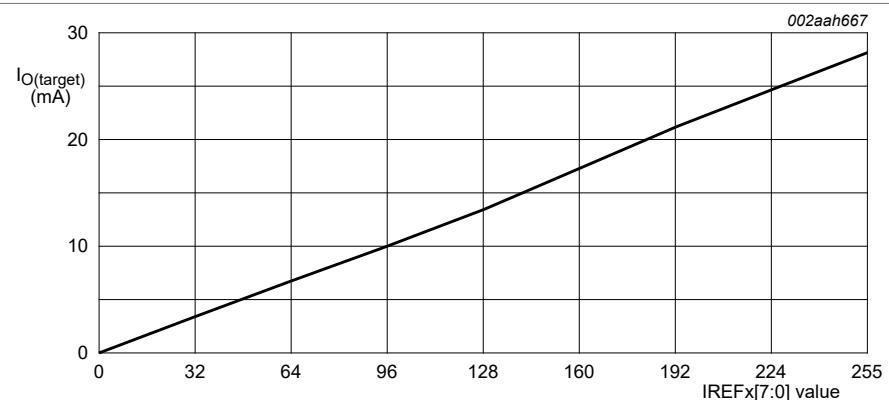

Figure 12. IO(target) versus IREFx value with Rext = 2 kΩ
**Example 2:** If Rext = 2 kΩ, IO\_LED\_MIN = 112.5 μA, IO\_LED\_MAX = 28.687 mA (as shown in Figure 12).